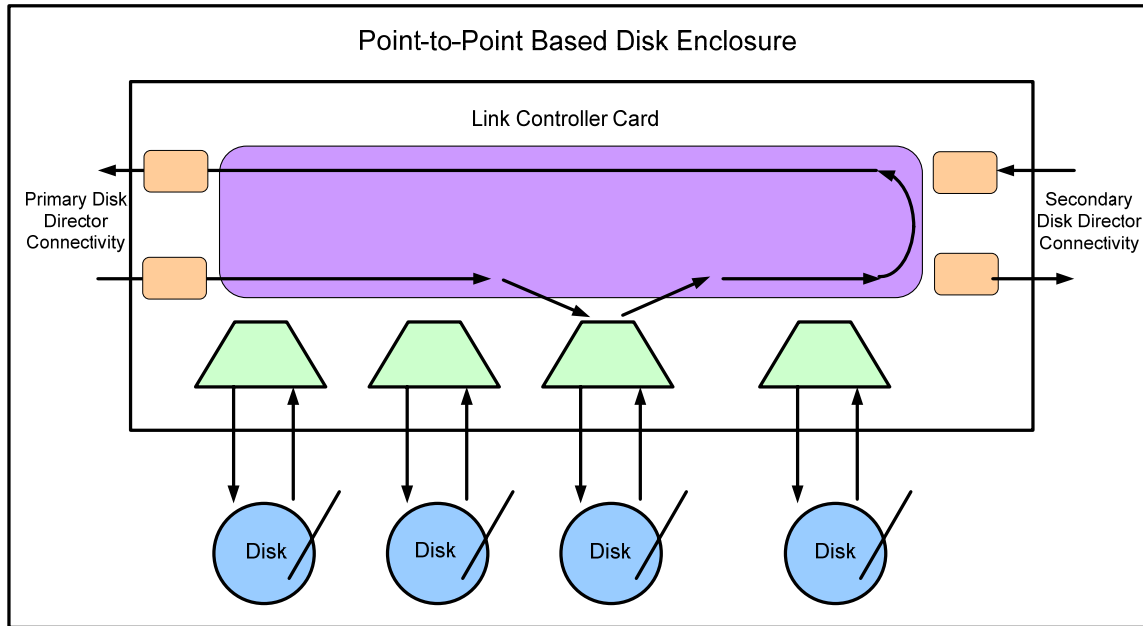
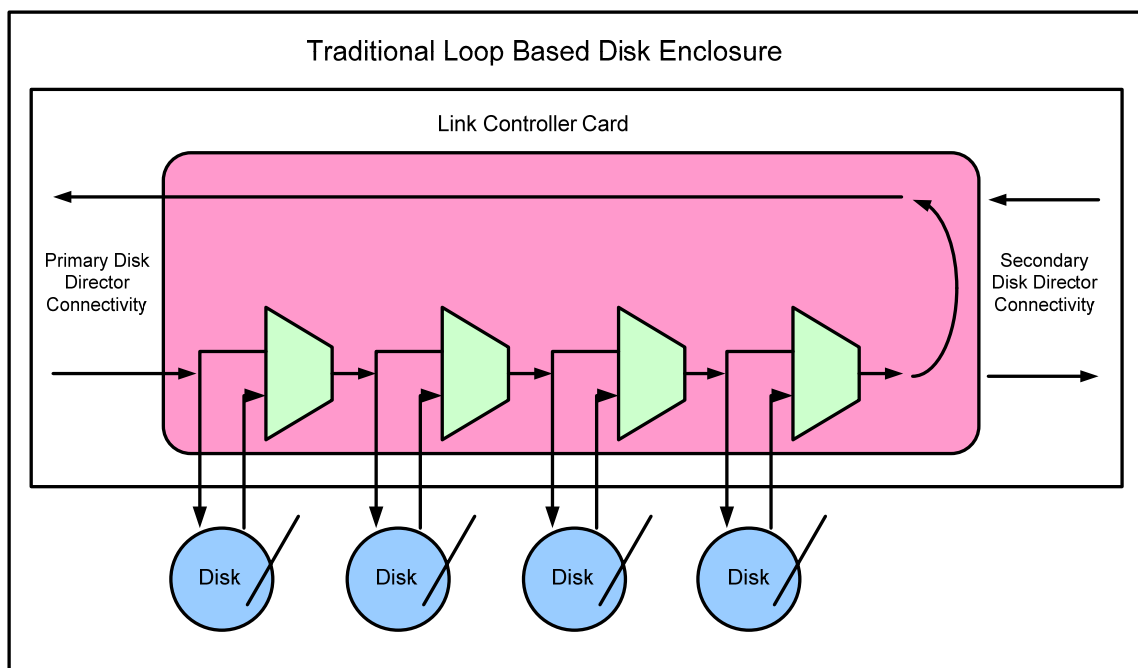

Figure 1
Figure 2
The primary distinguishing feature of the DMX-4 is the point-to-point Disk Enclosure (DE) that operates a 4Gbps (see Figure 1), as compared to the DMX-3 that utilizes a 2Gbps loop based drive enclosure (see Figure 2). The point-to-point (PtP) architecture enhances the arrays ability to access, diagnose and isolate drives for corrective action. According to EMC, the benefit of the PtP architecture becomes even more evident with highly populated backend end loops. See Appendix D: DMX-4 Backend Subsystem, for additional specifications on the DMX-4 backend subsystem and point-to-point connectivity.